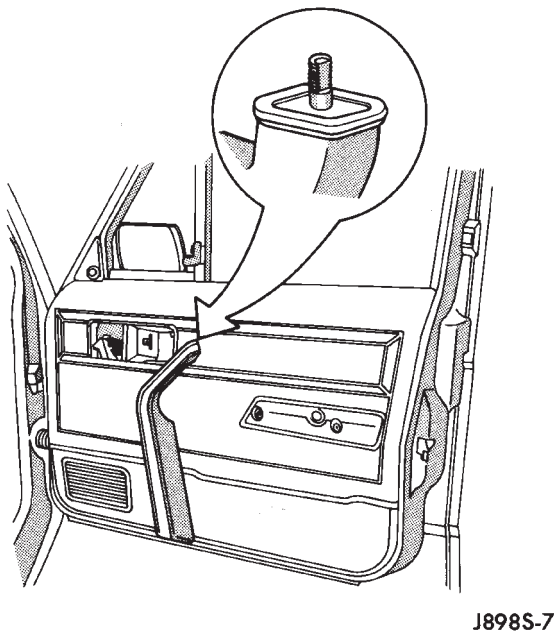

Fig. 6 Armrest Retainer Clip
- (4) Remove armrest lower retaining screws.
- (5) Swing armrest downward to a vertical position. This is necessary to disconnect armrest from upper retainer clip (Fig. 6).